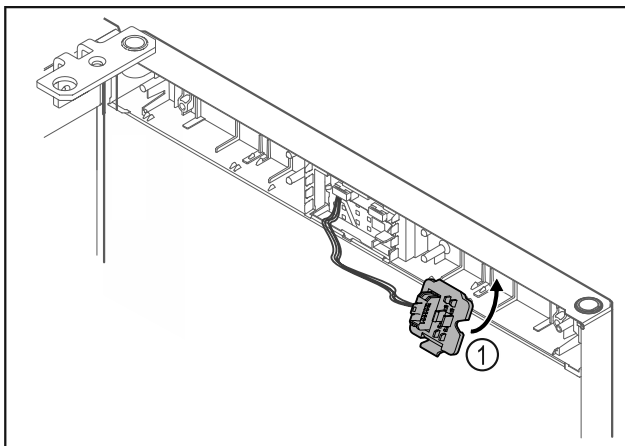

Fig. 21
- Snap in the plug holder Fig. 21 (1) on the opposite side.